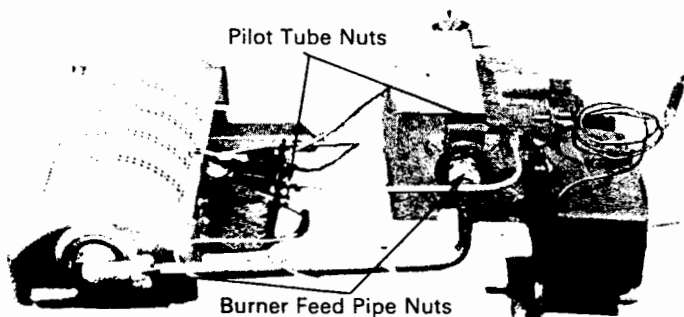
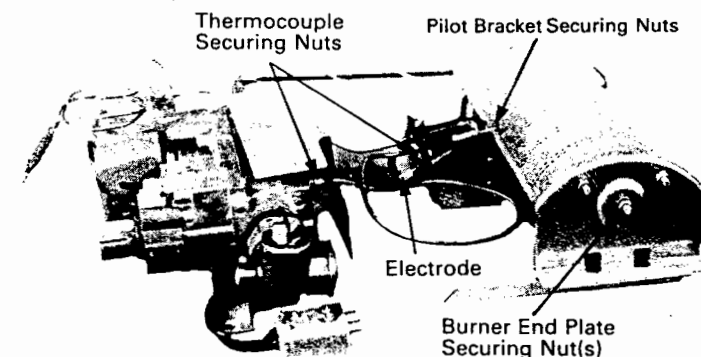

Fig. 19. Burner and Controls (2)
Fig. 18. Burner and Controls (1)
- 12. Clean the Burner (Fig. 18 and 19)**
- (b) Remove the nuts and washers securing the pilot bracket to the burner (Fig. 18).
Thermocouple (Fig. 18)
Spark Electrode (Fig. 18)
Piezo Unit (Fig. 19)
Burner (Fig. 18 and Fig. 19)